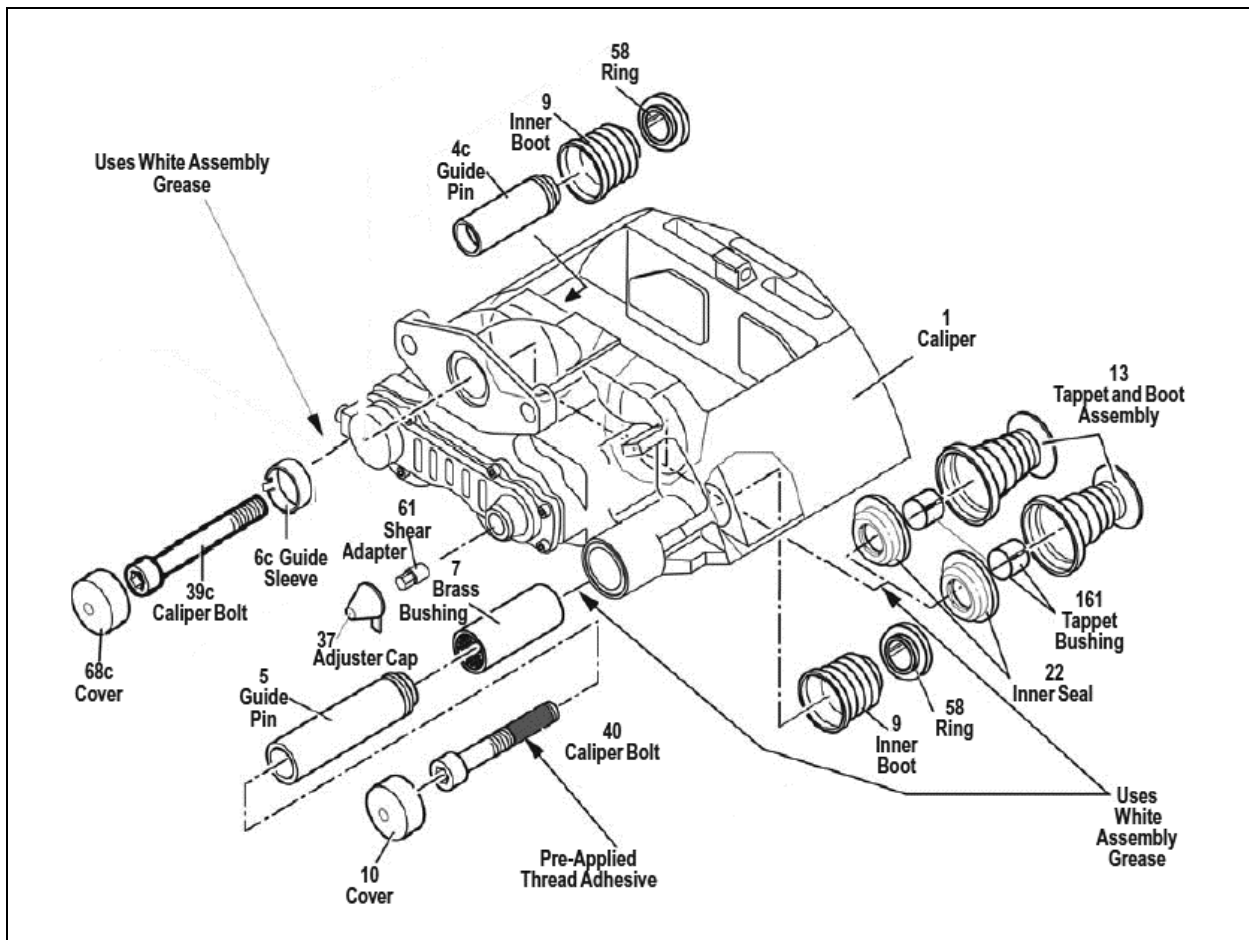

FIGURE 26: BRAKE COMPONENTS
At each pad replacement, make sure the caliper operates smoothly over its full range of movement. If the caliper shows the following signs, replacement of the guide sleeve (6c, Figure 26), guide pin, screw (39) and cap is required.
Additionally, inspect the tappet and boot assemblies (13, Figure 26), the adjuster cap (37) and the sealing elements (9, 58) for correct fitting and condition as well as the caliper bearing in the area of the rubber bush/guide sleeve (6) (see **Knorr-Bremse Y006471 Service Manual**).